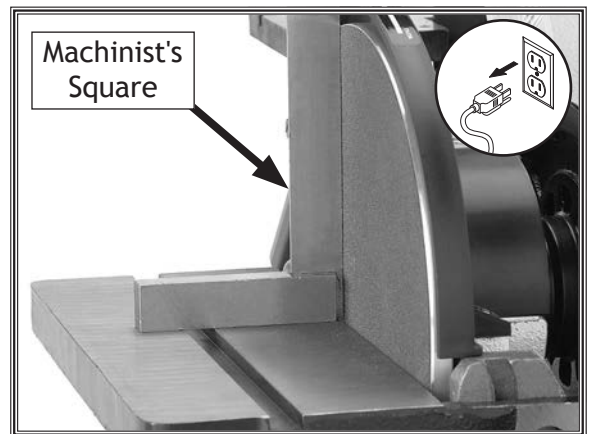

Figure 32. Using a machinist's square to adjust sanding disc table to 90°.
2. Place machinist's square or other 90° measuring tool against disc table and sanding disc (see **Figure 32**).